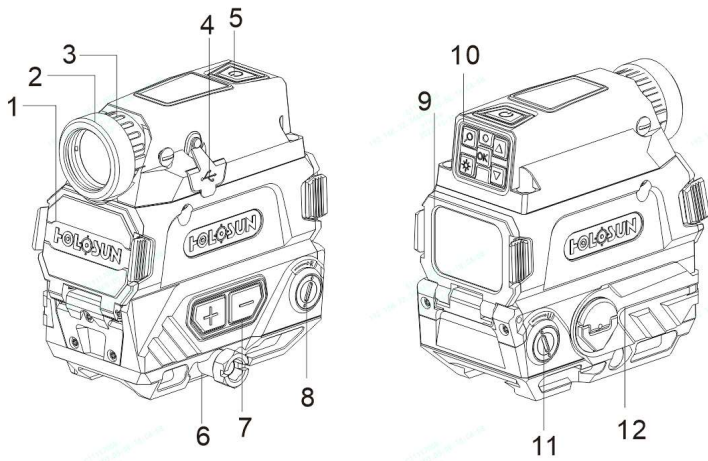

Figure 1. Introduction of components
2. Introduction of DRS-NV components (Figure 1)